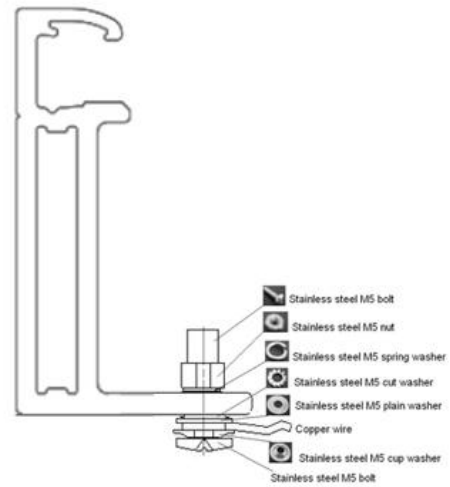

Fig. 13 Grounding the aluminum frame with copper wire
The PV modules are designed with an anodised, corrosion-resistant aluminum alloy frame as a rigid support. To ensure safety and to avoid lightning strikes and electrostatic damage to the PV modules, the PV module frame must be earthed. The earthing device must be in full contact with the interior of the aluminum alloy of the frame, penetrating the surface oxide film. The following is the specific grounding method, as shown in Fig. 13.
- Use the marked 5.5 mm grounding holes to ground the anodized frame. Use one M5 nut, two M5 cut washers, one M5 plain washer, one M5 spring washer, and one M5 bolt and the copper wire. All nuts, bolts, and washers shall be of type M5 and made of stainless steel (Fig. 13).